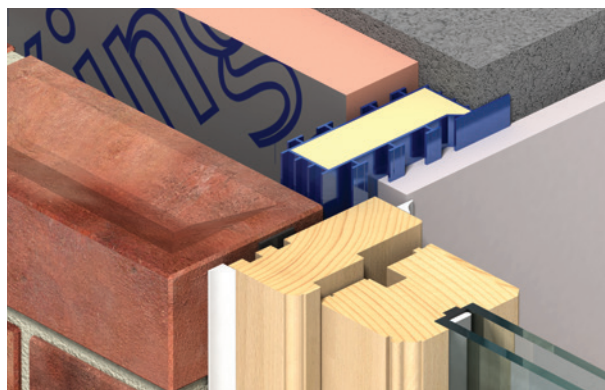
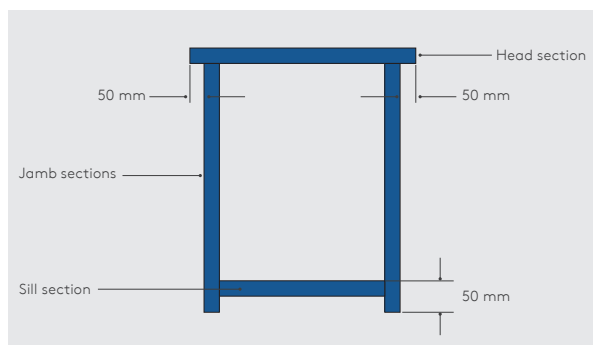

Figure 19: Flange Fixed to the Inner Leaf
Figure 21: Kingspan Thermabate® Sill, Jamb & Head Sections
- Where a check reveal is required, or where a door or window frame is required to be set further back into the reveal (Figure 19), the secondary, i.e. the narrow flange on larger sections, should be removed.
- Kingspan Thermabate® should be built-in as the wall is being constructed (Figure 19), keying mortar from bed joints to the fins on the casing (Figure 21 A & B).
- To enable the window frame to be set further back into reveals, particularly if a check reveal is required, fix the flange to the inner leaf (Figure 19).